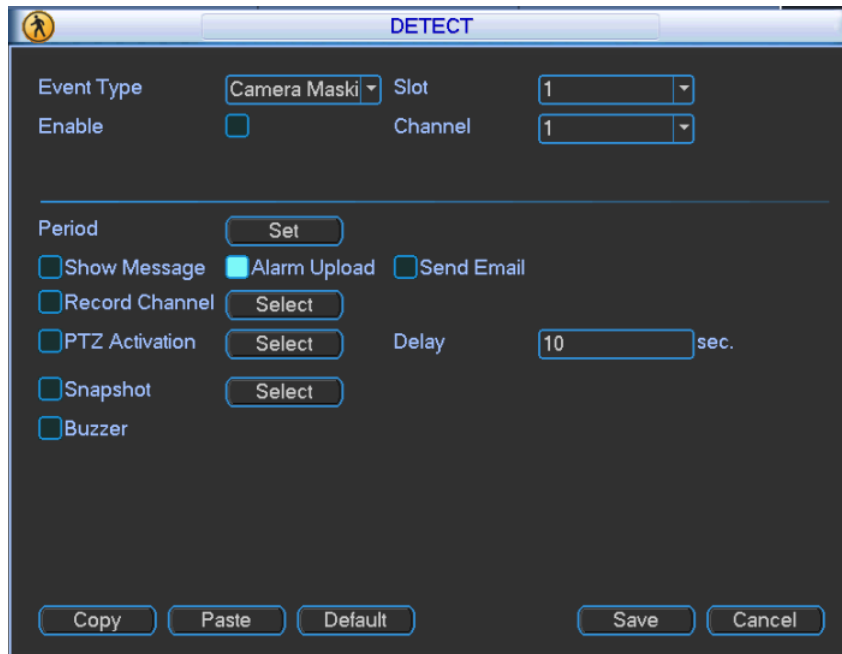

Figure 3-58
Step 1 Select “Event Type” to be “Camera Masking”. The system displays Figure 3-58.